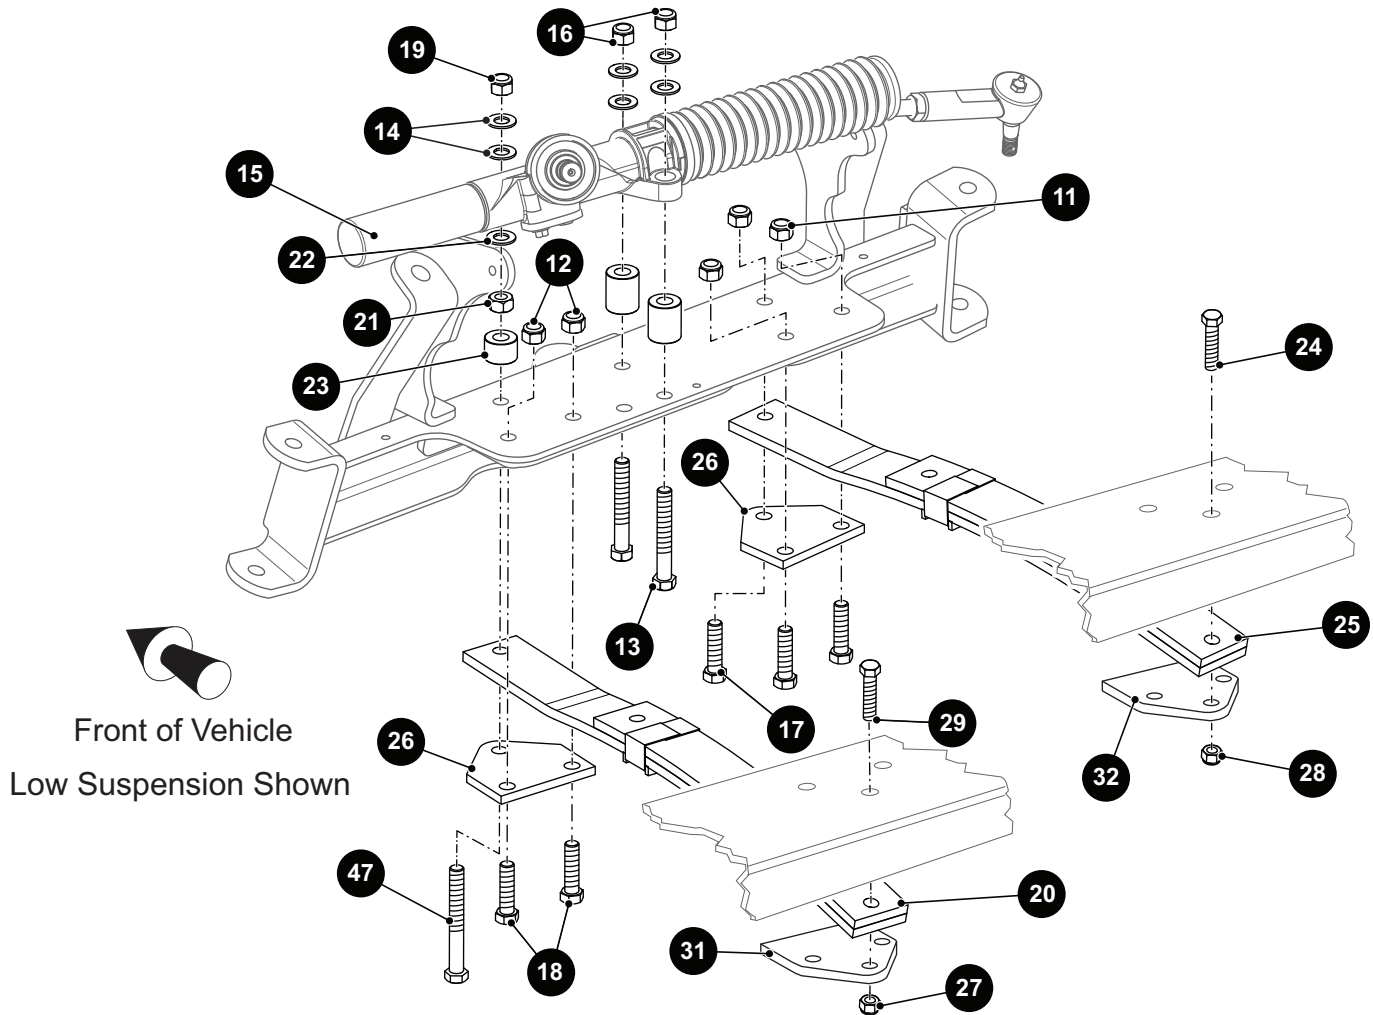

Fig. 6 Leaf Springs
CAUTION To prevent stress and possible damage to the rack and pinion unit, the driver side spring must be mounted to the axle with the hardware installed in its original location (Ref Fig. 6).
1. Remove the lock nuts (11), bolts (17), and spring plate (26) securing the front of the passenger side leaf spring (25) to the axle (Ref Fig. 6).
3. Remove the lock nuts (28), bolts (24), and spring plate (32) securing the rear of the spring (25) to the vehicle frame.
1. Measure the distance from the center bolt (29) at the rear of the left spring to the center bolt (17) at the front of the right spring (Ref Fig. 6).
2. Measure the distance from the center bolt (24) at the rear of the right spring to the center bolt (47) at the front of the left spring.
3. Fully loosen the two lock nuts (16) on the bellows end of the rack and pinion unit (15) until only one thread is engaged (Ref Fig. 6).